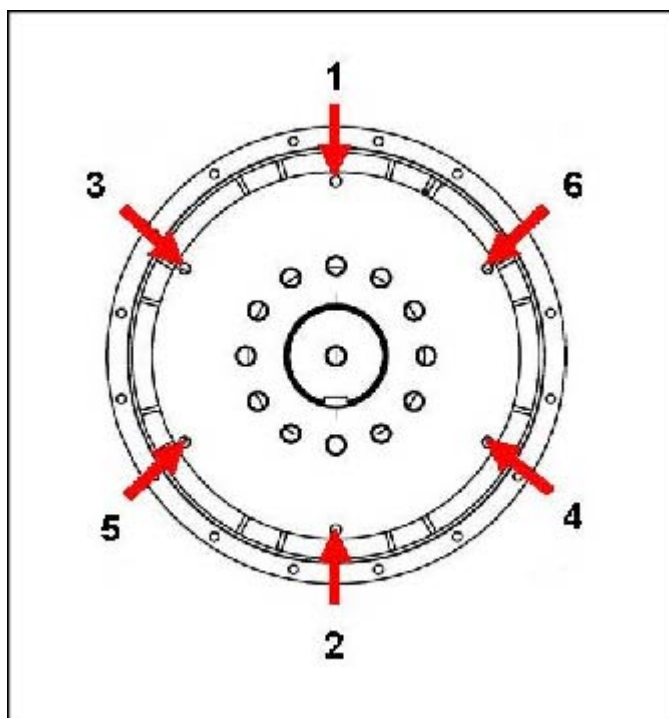

FIGURE 14. FIXING SEQUENCE TO FLYWHEEL
10. Tighten the bolts to fix the coupling disc to the flywheel, in the sequence shown in Figure 14 on page 25